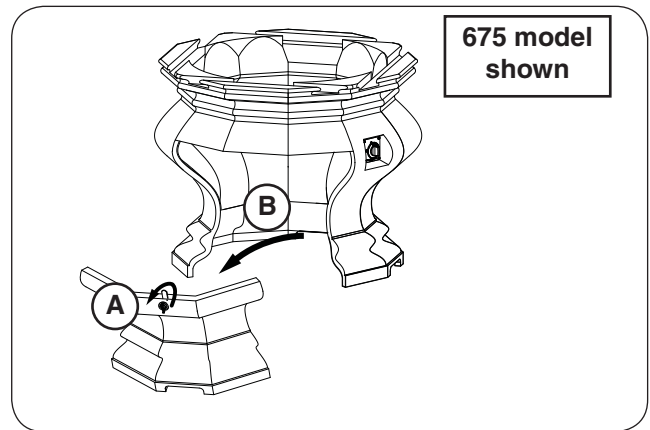

Fig. 24-1 Place base and remove door
1. **CAREFULLY** place the base in an appropriate location (see Fig. 24-1, and refer back to the LOCATION section if needed).
2. Remove the storage door by first turning the door handle counter-clockwise, then carefully pulling the door outward (see Fig. 24-1). Store in a safe location.